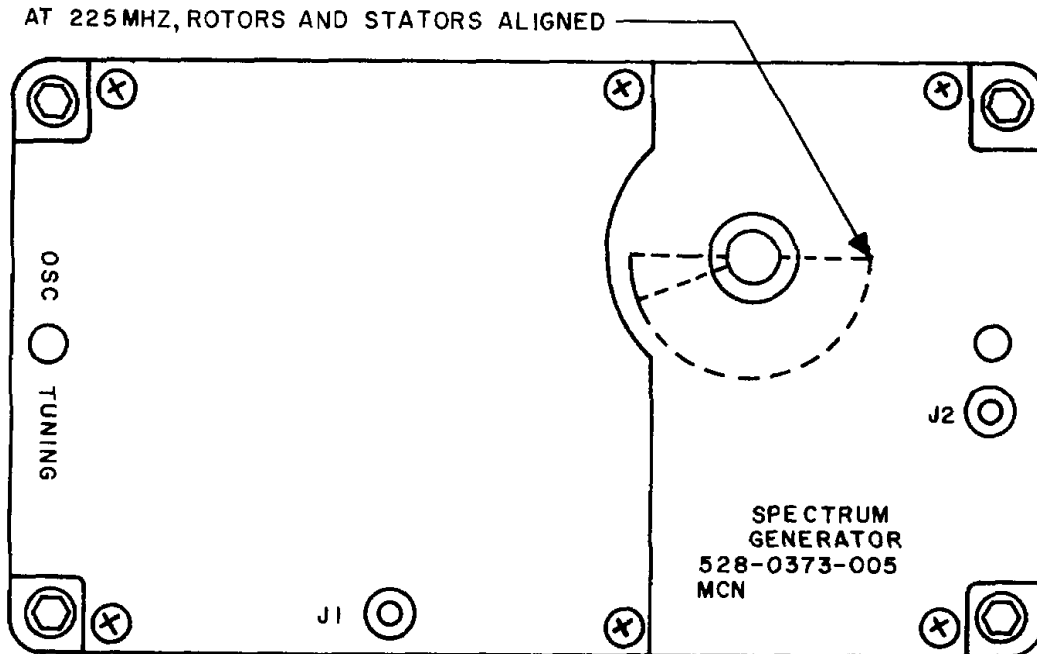

Figure 5-24. Spectrum Generator Module, Rotor-Stator Coincidence at 225 MHz
- (h) Repeat step (g) above for each 10-MHz increment to 229.9 MHz inclusive. Refer to figure 5-24.